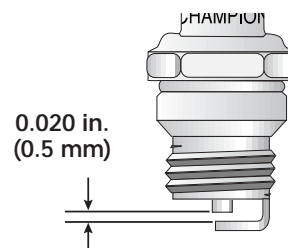

Figure 44
3. Replace cracked, fouled or dirty spark plug. Set the air gap at **0.020 in. (0.5 mm)** using a feeler gauge. See Figure 44.